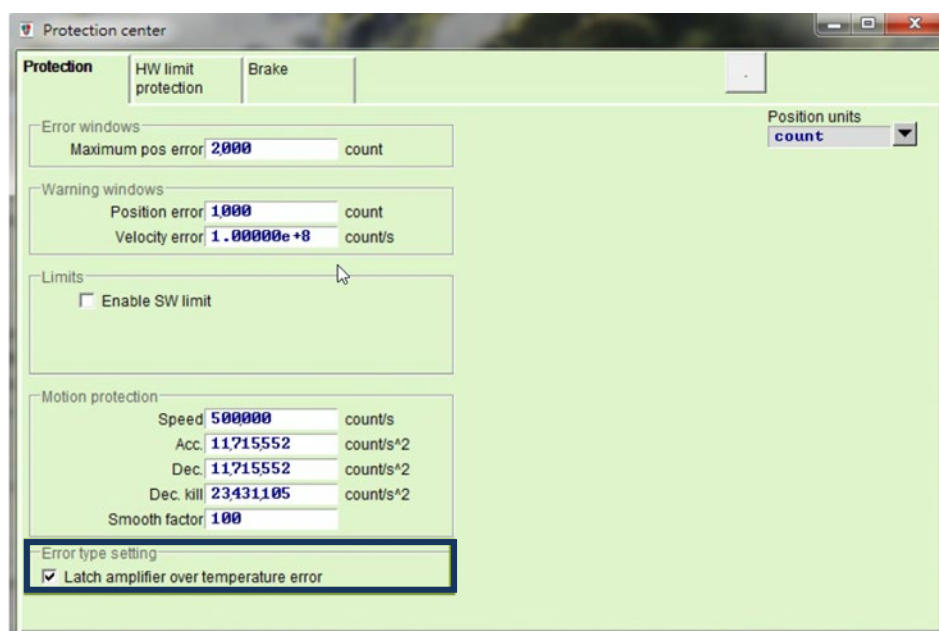

Figure9.3.1
- Modify the maximum position error by steps described in figure 9.3.1.
Click on **Protection** tab in Protection center. Enable or disable this function in the setting area of **Error type setting**, as figure 9.3.1. Check the checkbox of **Latch amplifier over temperature error** to disable automatic error handling function. If the checkbox is not checked, automatic error handling function will be enabled.